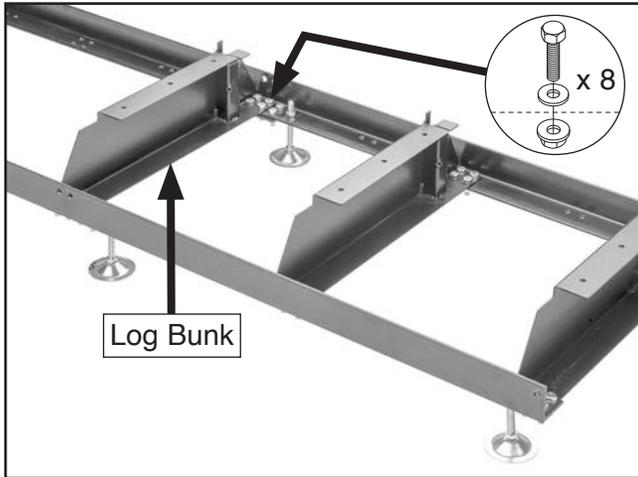

Figure 19. Log bunk installed over rail brackets and rail junctions.
- On top of rail brackets, install log bunk with (8) M10-1.5 x 30 hex bolts, $\frac{3}{8}$ " flat washers, and M10-1.5 flange nuts (see **Figure 19**).